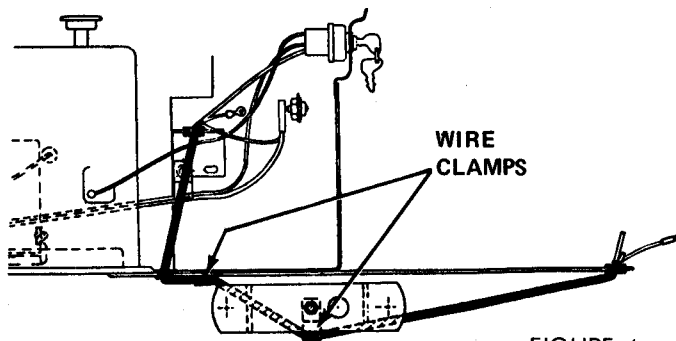

FIGURE 4
7. Check along the belts to be sure there is no interference between belts and wire clamps on the wiring harness. Orient the wire clamps as shown in Figure 4 for proper clearance.